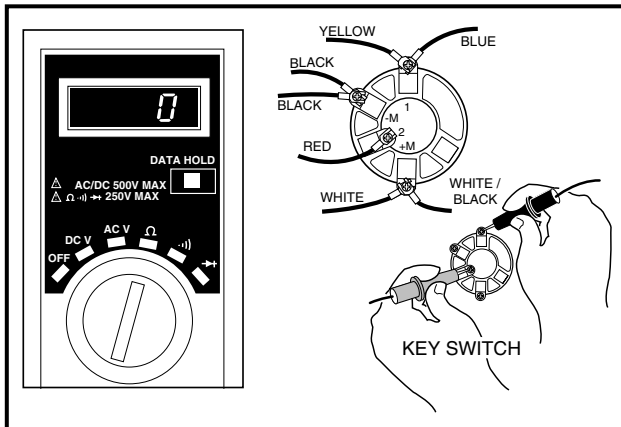

FIGURE 12-34
4. Insert the key and turn the switch to ON. Place the red (+) probe of the multimeter on the No. 2 terminal and the black (-) probe on the No. 1 terminal of the key switch. The reading should be continuity. If the reading is incorrect, replace the key switch (**Figure 12-34**).